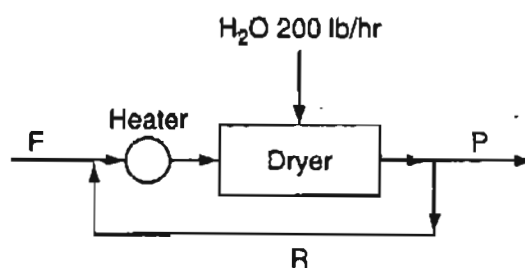

Figure P18.26
- ✓**18.26 A drier must take up 200 lb/hr of H_2O . Entering fresh air at 70°F and 50% RH (F) is mixed with recycle air (R) and enters the drier, leaving at 140°F and 80% RH (P). What is the volume of R (at its conditions) per volume of P (at its conditions)? The barometer reads 14.62 psia, and P and R each are at 0.15 psia gauge pressure. The dew point of the air after the heater is 100°F. See Figure P18.26.